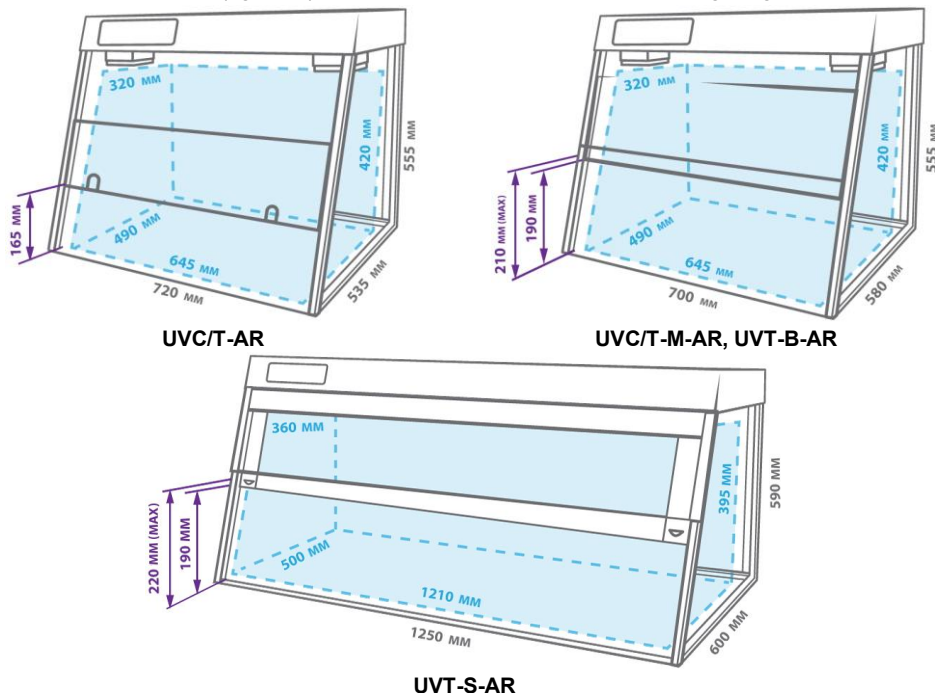

Figure 7. Box dimensions
6.6. Box dimensions (figure 7). Outer and inner dimensions, opening heights.